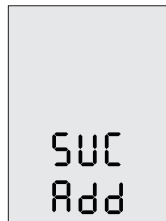

Figure 5-9
Step6: After pairing, the LCD panel will display as Figure 5-9 for 5s, then returning to home page automatically.